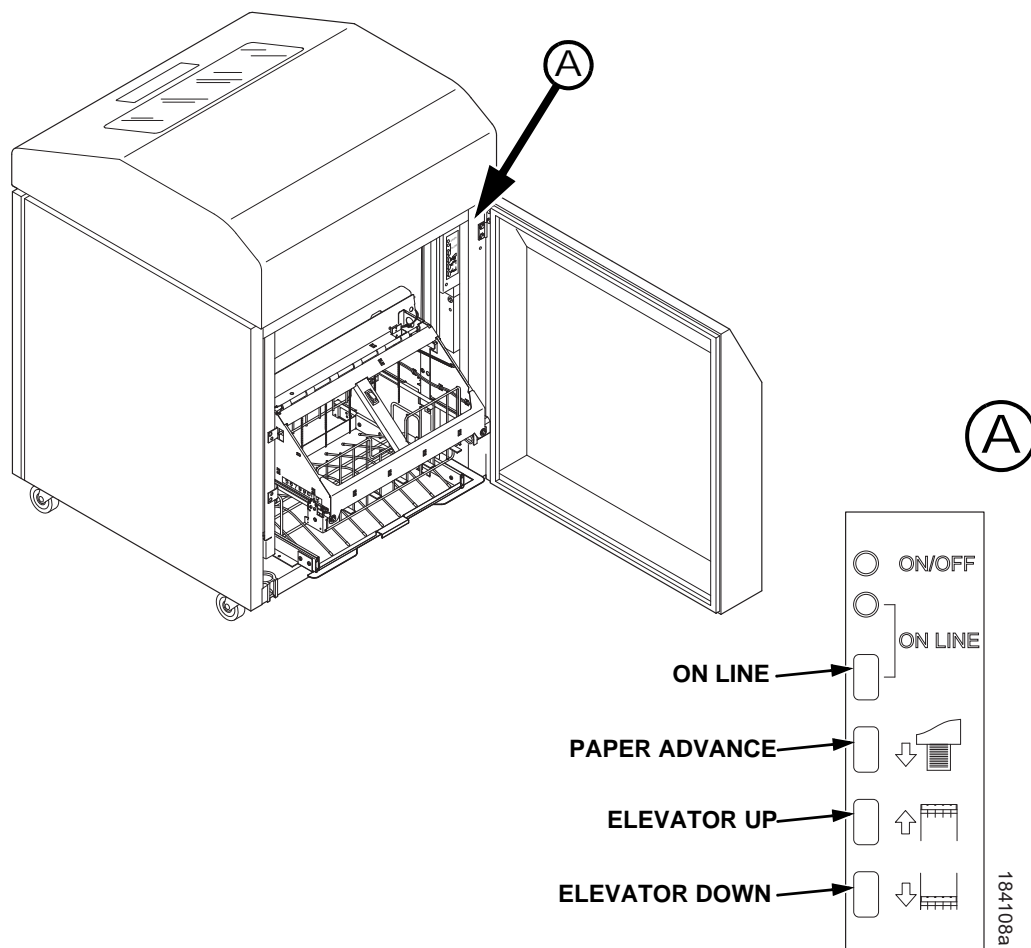

Figure 2. The Rear Control Panel
2. If necessary, press the **ONLINE** key on the front panel or rear control panel to take the printer offline. (Figure 2.)
3. Press the **ELEVATOR UP** key and wait for the elevator assembly to reach the top of its travel. (Figure 2.)